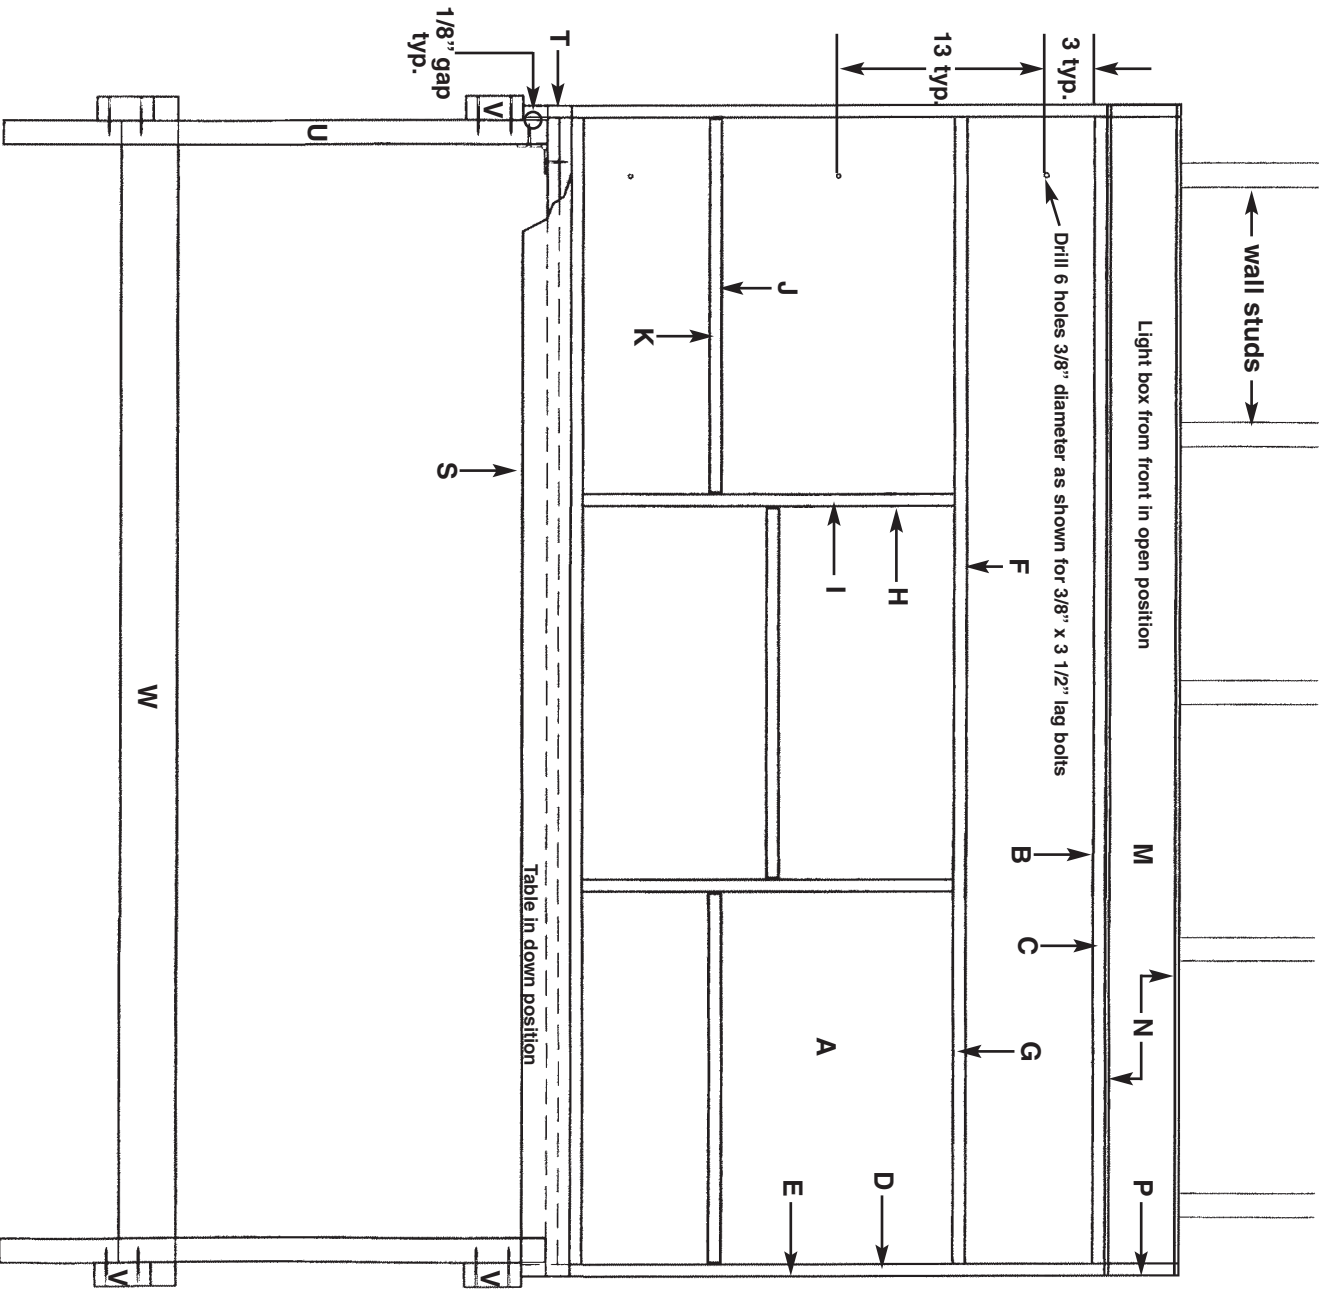
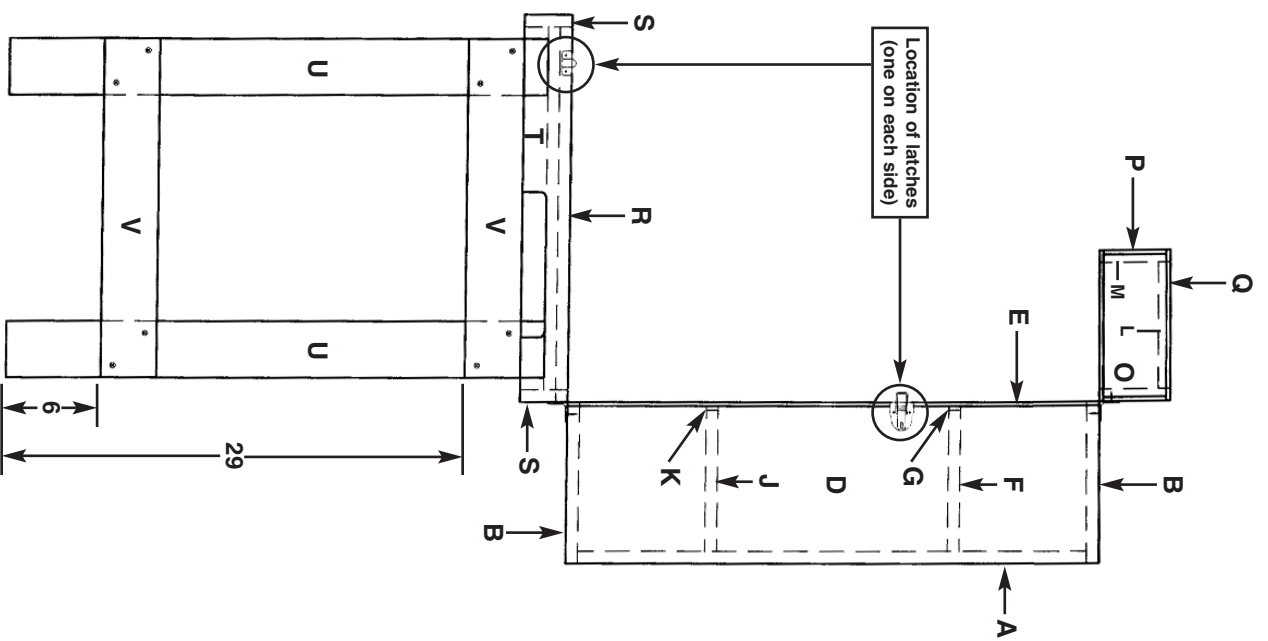
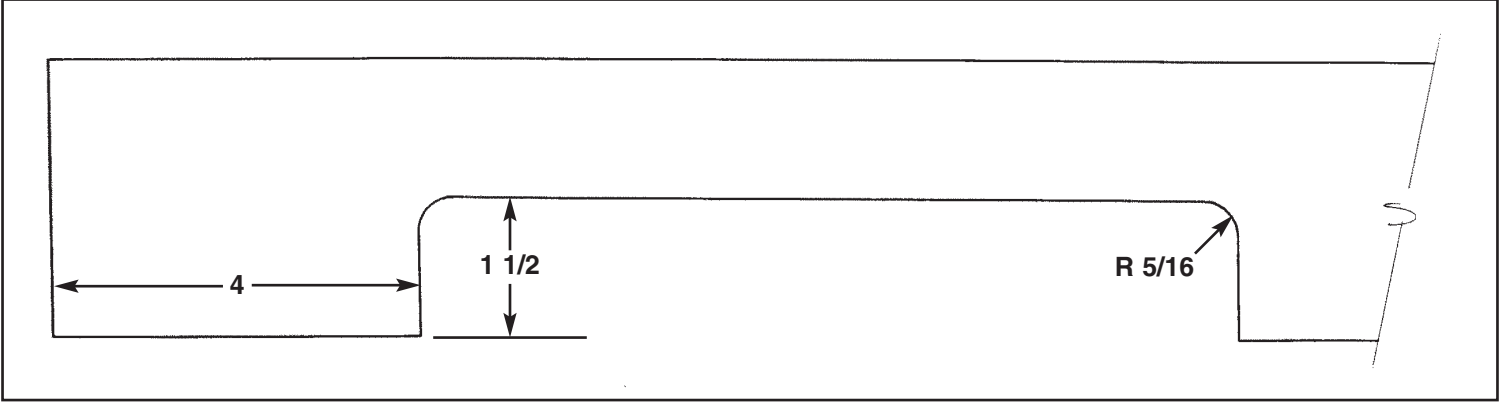
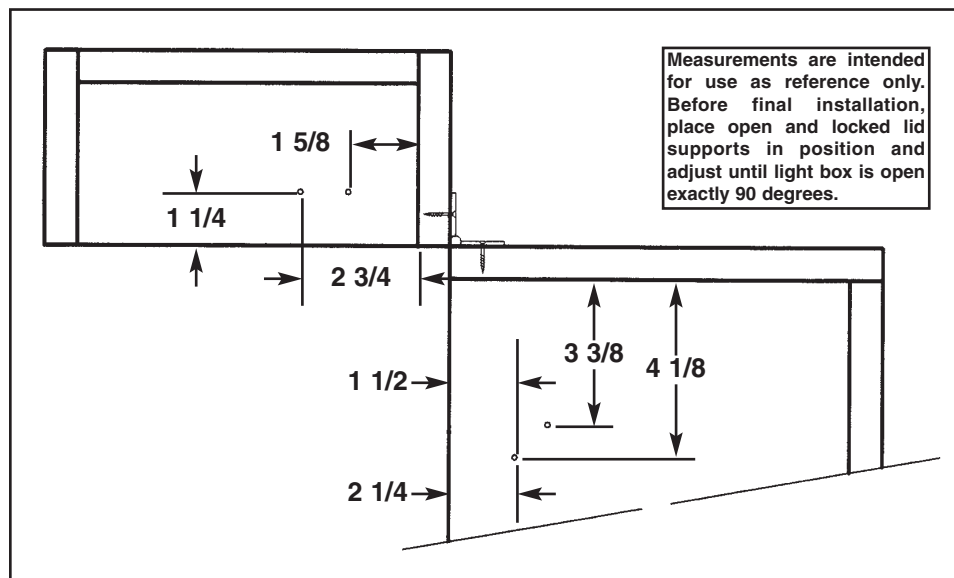

Figure 1
Figure 2
Figure 5
Figure 7
1. Attach edge trim (C), (E), (G), (I), (K), (N), (P), and (Q) to boards (B), (D), (F), (H), (J), (M) and (O) using glue and 3/4" finish nails. Refer to Pictorial and Figures 1 and 2.
3. Attach top and bottom subassemblies (B, C) to board (A) using glue and 1 1/4" finish nails. Refer to Pictorial and Figures 1 and 2.
4. Attach sides (D, E) to subassembly (A, B, C) using glue and 1 1/4" finish nails. Check for squareness. Refer to Pictorial and Figures 1 and 2.
5. Using vertical dividers (H, I) as placement guides, attach shelf (F, G) to cabinet using glue and 1 1/4" finish nails. Check for squareness. Refer to Pictorial and Figures 1 and 2.
6. Using a square and shelves (J, K) as placement guides, attach vertical dividers (H, I) to cabinet using glue and 1 1/4" finish nails. Refer to Pictorial and Figures 1 and 2.
7. Attach light box sides (M, N) to light box top (L) using glue and 1 1/4" finish nails. Refer to Pictorial and Figures 1 through 3.
8. Attach ends of light box (O, P, Q) to subassembly (L, M, N) using glue and 1 1/4" finish nails. Check for squareness. Refer to Pictorial and Figures 1 through 3.
9. Using glue and 1 1/4" finish nails, fasten boards (R) together back-to-back (veneer side out) to create one, 1 1/2"-thick sheet for the bench top.
10. Cut notches in boards (T). Refer to Figure 5.
11. Attach boards (S) and (T) to the edges of the bench top (R) using glue and 1 1/4" finish nails. Refer to Pictorial and Figures 1, 2 and 4.
12. Sand and apply finish to all parts, including leg boards (U), (V) and (W).
13. Attach light box to cabinet using piano hinge. Refer to Pictorial and Figure 2. Install lid supports. If using lid supports from U-Bild Space-Saver Workbench Hardware Kit (No. 916HK), refer to Figure 7.
15. Attach bench top assembly (R, S, T) to cabinet using piano hinge. Refer to Pictorial and Figure 2.
16. Install latches on each side of cabinet and bench top assembly. Refer to Figure 2 for position.
17. Assemble leg boards (U) and (V) using glue and #8 x 2 1/2" wood screws. Refer to Pictorial and Figures 1, 2 and 8. Check for squareness.
18. Attach leg assemblies (U, V) to bottom of table using 3" butt hinges. Leave a 1/8" gap between boards (U) and (T) when legs are in the open position. Refer to Figure 1.
20. Cut notches in cross-brace boards (W) to fit boards (V). Refer to Pictorial and Figure 1.
21. With bench top and legs in open position, attach cabinet to wall studs using 3/8 x 3 1/2" lag bolts. Refer to Figure 1. Make sure legs are touching floor and bench top is level.